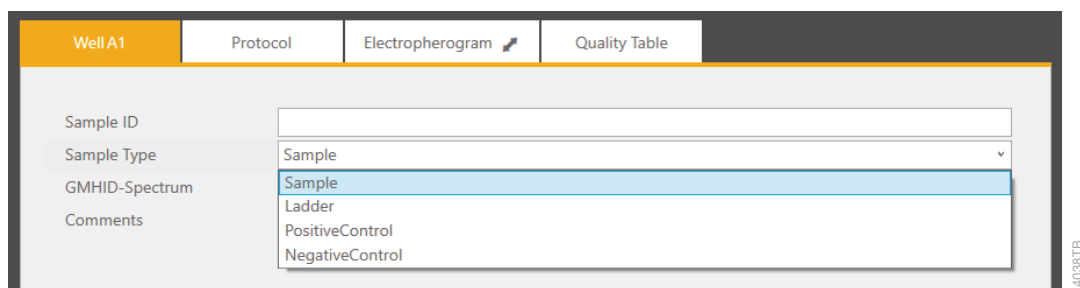

Figure 13. Drop-down options for sample type.
5. Select sample types for each sample or group of samples on the plate. Select the sample(s) then use the drop-down menu (Figure 13) to designate the well(s) as Sample, Ladder, Positive Control or Negative Control. These designations will be included in the output file for downstream analysis.